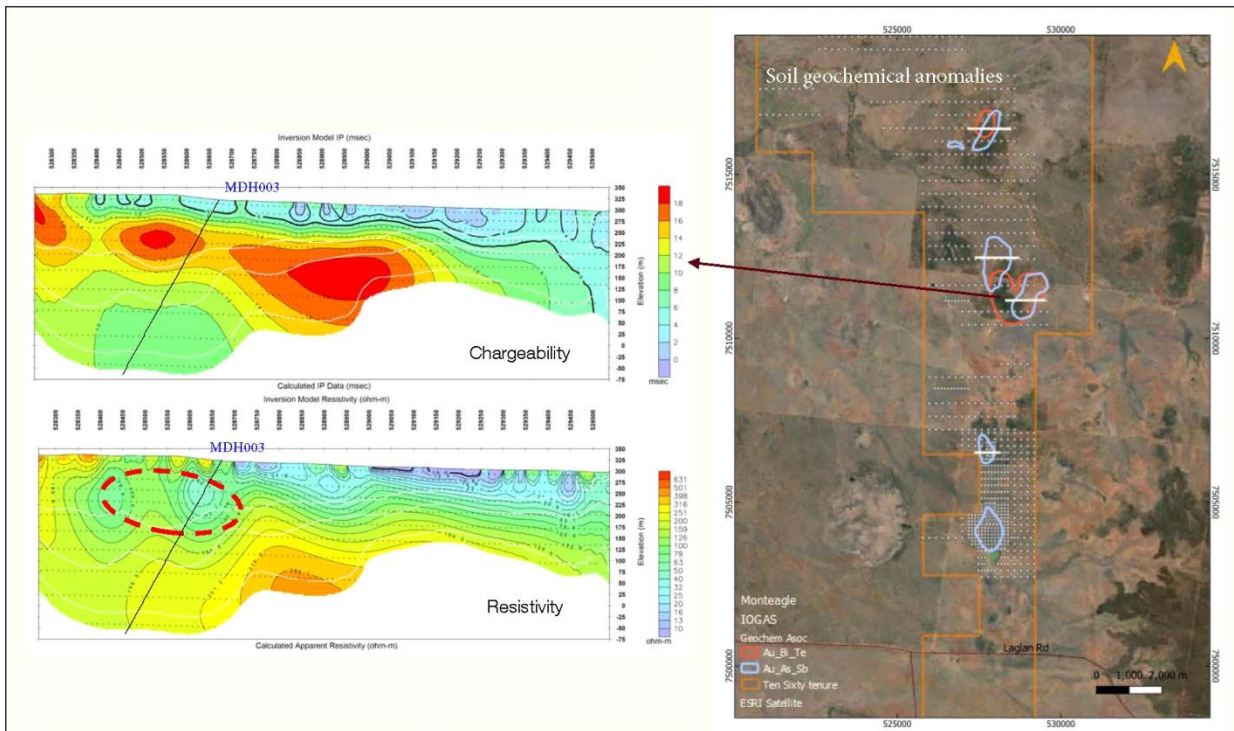

Figure 2. Location map and cross-section of MDH003.
The MDH003 drill hole collar coordinates 527999.5E/7516405.9N (UTM) with an orientation 262° azimuth and -60° dip. The objective is to target a combination of soil geochemical sampling and Induced Polarization (IP) geophysical survey anomalies around outcropping metasediments of the Anakie Metamorphic with crosscutting massive quartz veins and veinlets in micaceous metasediments (Figure 2).